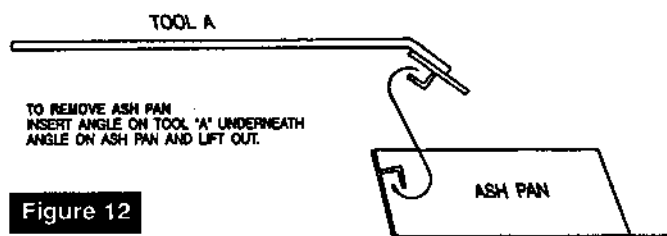

Figure 12
- d. Use tool A to lift pan(s) and pull out carefully (see figure 12).